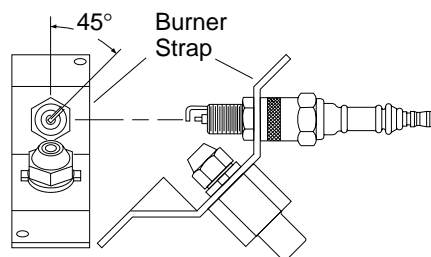

Figure 19 - Spark Plug Rotation, 35/55,000 BTU/Hr Models Only
5. Remove two (2) screws using 5/16" nut-driver and remove burner strap.
10. Replace burner strap onto spark plug. Rotate burner strap to position spark plug electrodes (see Figure 19).